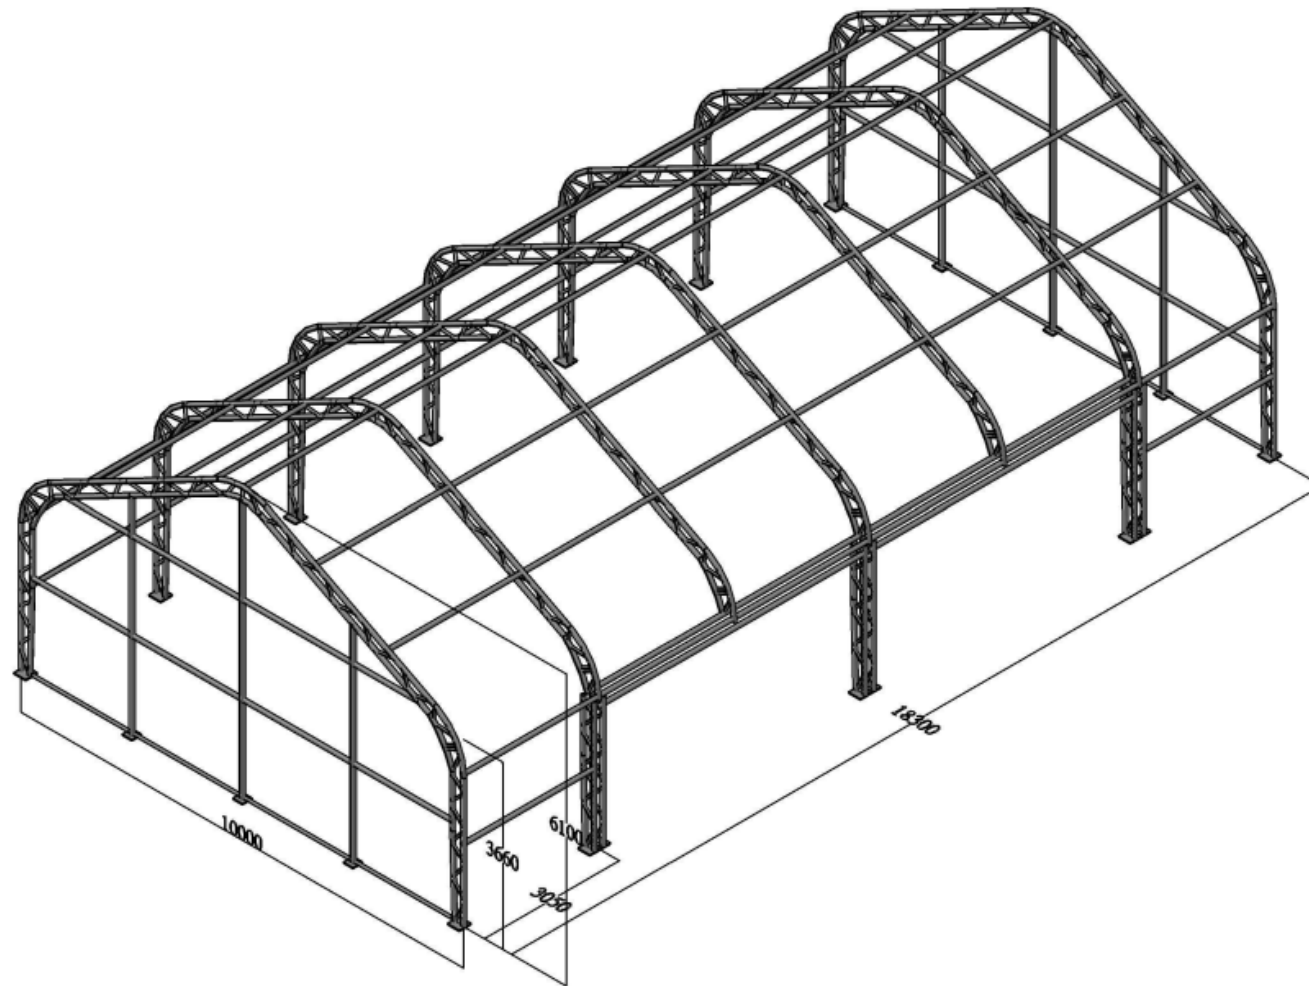
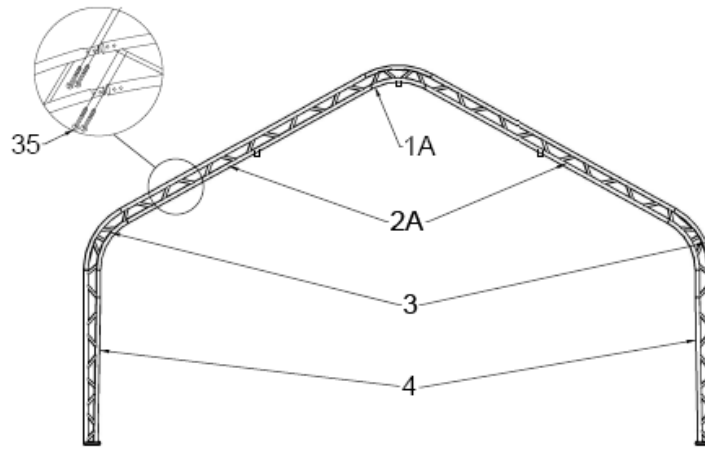

Figure 1 Frame Sketch
Figure 3
1. Assembly the front and back wall as Figure 3 shows , connect the Roof bent tube for front and back wall (No.1A),Sidewall bent tube for front and back wall (No.2A),Shoulder bent tube(No.3) and Standing leg (No.4)with Carriage bolt M8x70(No.35), then put the arch into tube of the Base flange by hoist.(see Figure 1)
4.Connect Purlin(No.5 and 5A) to arch by using Carriage bolt M10x80mm (No.37) by turns(see Figure 6),then connect the Steel wire(No.21 and No.22) on top and side by using Clip(No.23 (see Figure 1).